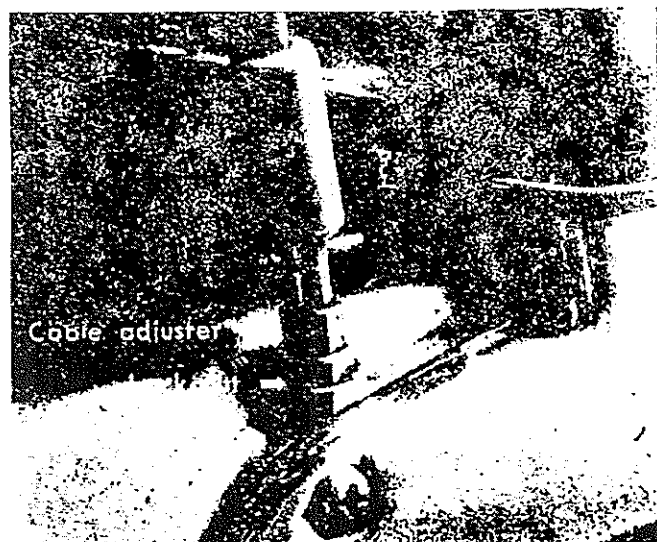

Fig. 16
- b) Adjustment of the clutch free play is done by turning cable adjuster. Screw in more free play, and out for less. (Fig. 16).